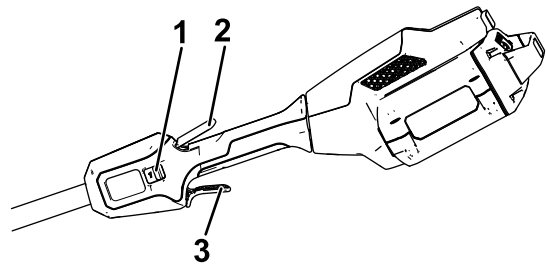

Figure 9
4. To start the trimmer, squeeze the lockout trigger, then squeeze the variable-speed trigger (Figure 9).